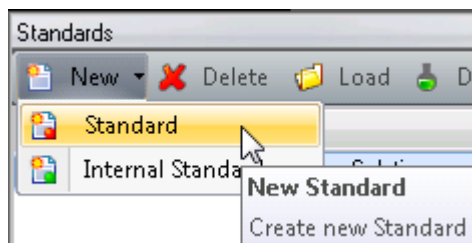

Figure 6-25. Creating a new standard
6. For eQuant or trQuant Templates, click  to open the drop-down menu, see Figure 6-25.
5. For eQuant or trQuant Templates, click  to open the drop-down menu, see Figure 6-25.